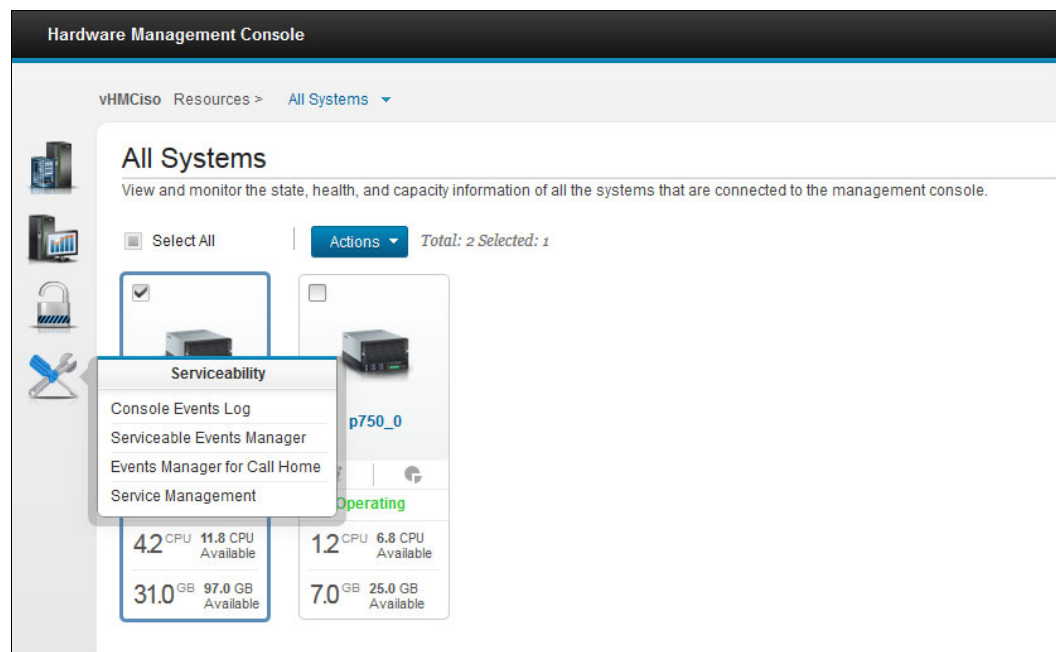

Figure 6-2 HMC Serviceability Menu
3. Select **Actions** → **Serviceability** → **Serviceable Events Manager** (Figure 6-2).